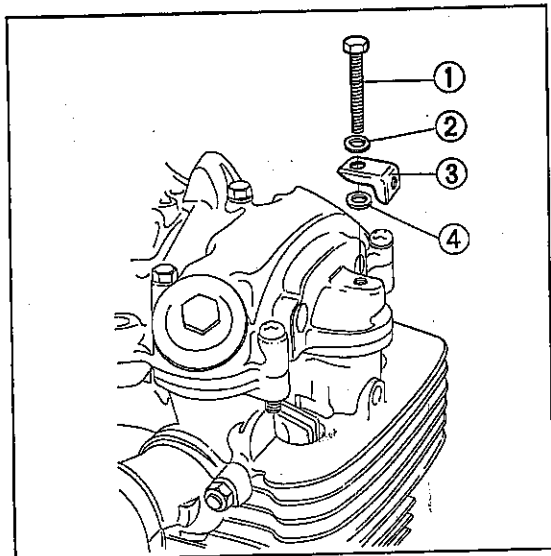

Fig. 88 ① 6 mm screw
- Use the six 6 mm copper washers as shown in Fig. 88.